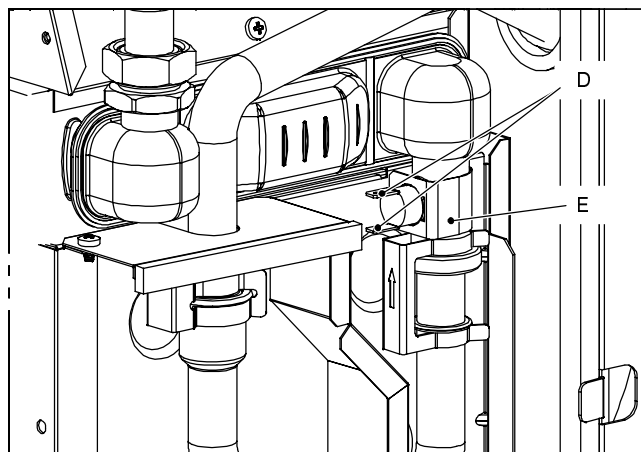

Fig. 85
- 3 Disconnect the wiring *D* (detail in Fig. 85).